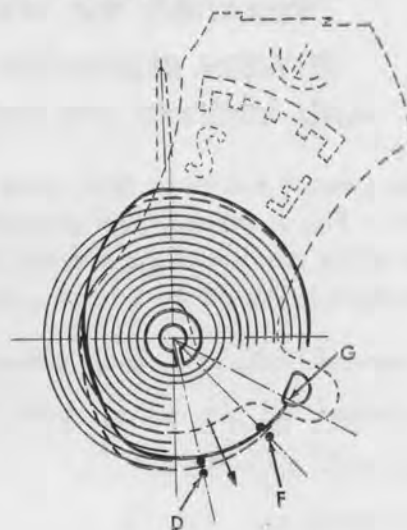
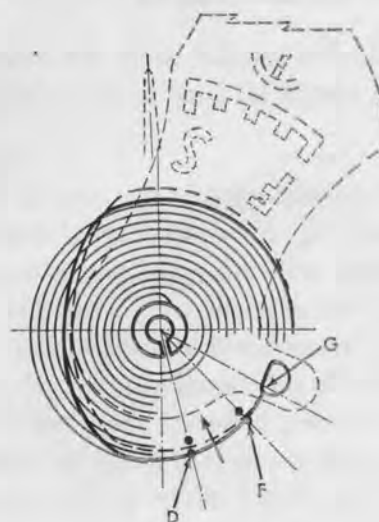

FIG. 2
FIG. 3
Figure 2 shows the overcoil bent towards the balance staff. This is a direct result of a bend at point G. When the stud is placed in the balance cock, the overcoil should conform to the conditions shown in Fig. 1, but because of the bend at G, the overcoil will gradually curve inward towards the balance staff. The correction of this condition is known as "Circling the Overcoil."
Figure 3 shows the overcoil bent away from the balance staff. From the explanation covering the condition in Fig. 2, it is possible to make the following statements in reference to circling the overcoil.
1. When the overcoil moves away from the balance staff, as the regulator pins are moved away from the stud, it will be necessary to bend the overcoil away from the staff to correct the error. (Fig. 2.)
2. When the overcoil moves towards the staff, as the regulator pins are moved away from the stud, it will be necessary to bend the overcoil toward the staff. (Fig. 3.)
After the overcoil has been bent away from the balance staff as explained in Fig. 2, the regulator pins should be moved to position *F*. Look at the position of the overcoil between the pins; it will probably conform to one of the following conditions: